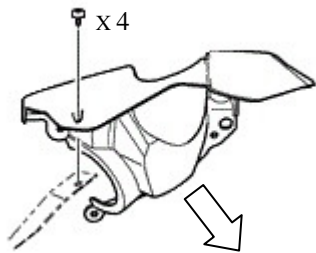

Figure 1
2. Remove the plastic fascia covering the turbo outlet. **Refer to Figure 1.**